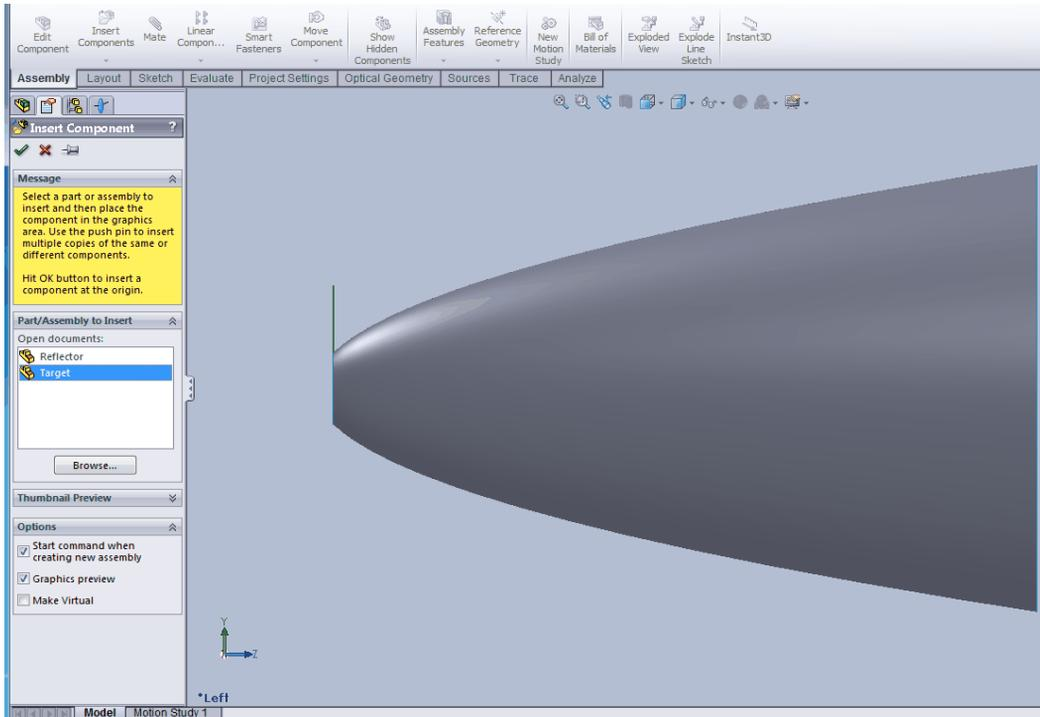

Figure 57 Using the Insert Component PropertyManager to move the target to right of the reflector
- 5 Position the target to the right of the reflector in the graphics area. The exact position does not matter at this time. See Figure 57.